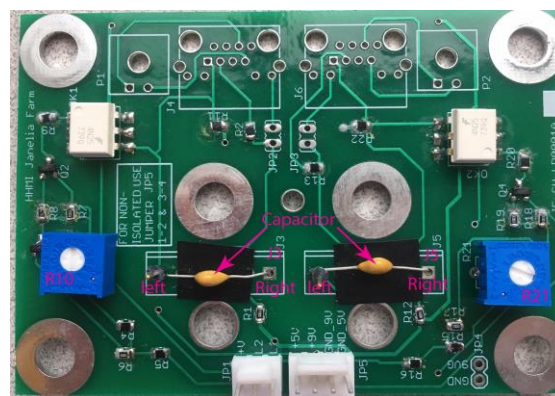

Fig.9.2
9.9. Test the lickometer board (Fig.9.2)